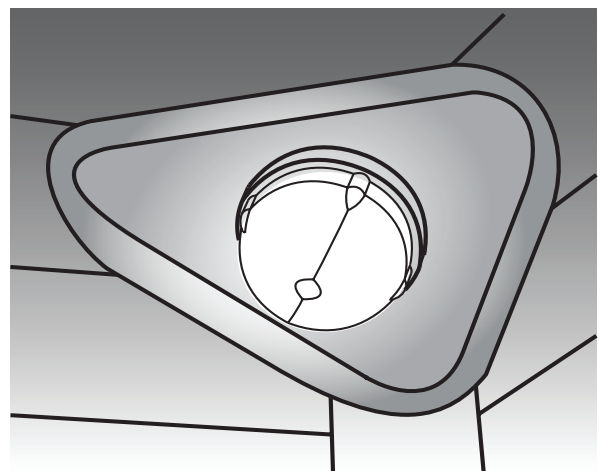

Figure 25: Wall oven Halogen light
1. Open oven door completely, horizontal with floor (Figure 25).
3. Fully open the oven door, horizontal with floor (Figure 25).